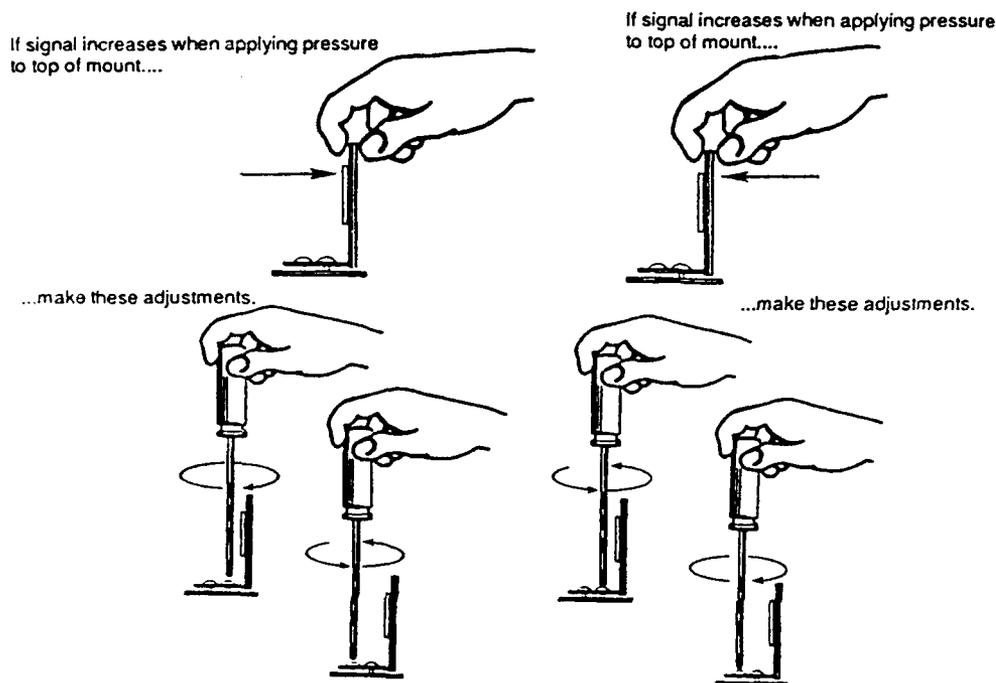

Figure 10: Adjustment of mirror tilt
7. Adjust the tilt on the transfer mirror assemblies. While monitoring either the throughput energy number or the height of the centerburst of the interferogram, press down gently on the front side of the first transfer mirror bracket. Then, repeat this step while pulling up gently on the rear side of the mirror bracket. (See Figure 10)